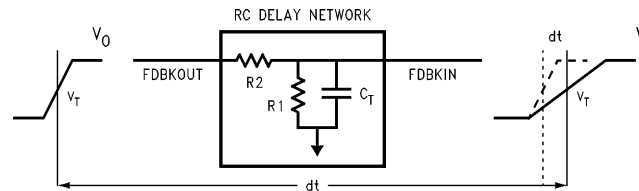

FIGURE 7
2. If R1 >> R2 and R1 >> XCT, the delay network shown in *Figure 7* simplifies to an R2CT network.